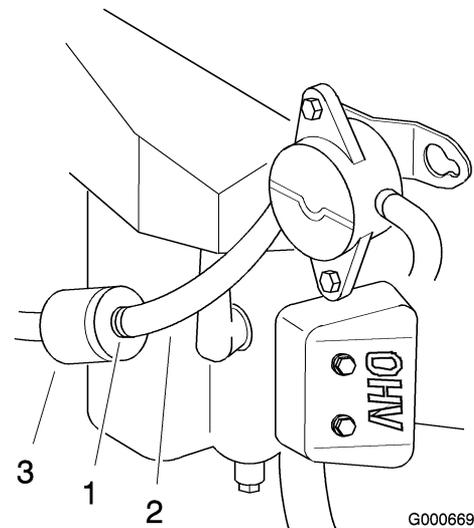

Figure 39
5. Squeeze the ends of the hose clamp together and slide it up the fuel line toward the fuel tank (Figure 39).
6. Pull the fuel line off the filter (Figure 39). Open fuel shut-off valve and allow gasoline to drain into an approved gas can.
5. Squeeze the ends of the hose clamps together and slide them away from the filter (Figure 39).